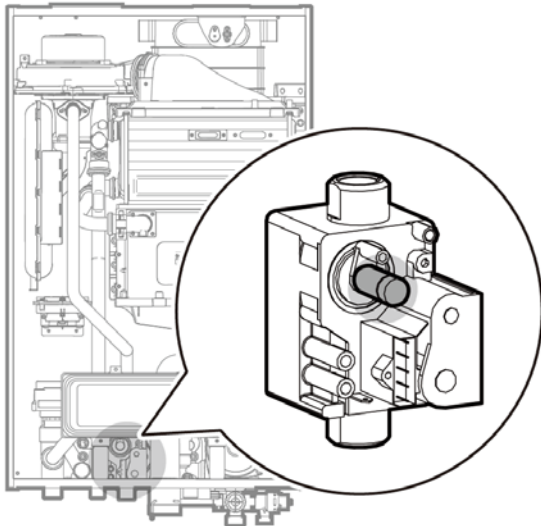

Figure 11. Set screw location
- c. Fully open a hot water outlet fitting and set the boiler to operate at 1-stage MIN mode (refer to table 2 for information about setting modes). Measure the offset value at a low flame setting and compare it to the values in Table 3. If the offset value is outside the range, adjust the gas valve set screw. If set screw adjustment is required, locate the set screw as shown in Figure 11. Use a 4mm (5/32 in) Allen wrench to turn the set screw no more than a 1/4 turn clockwise to increase or anticlockwise to decrease the offset value.